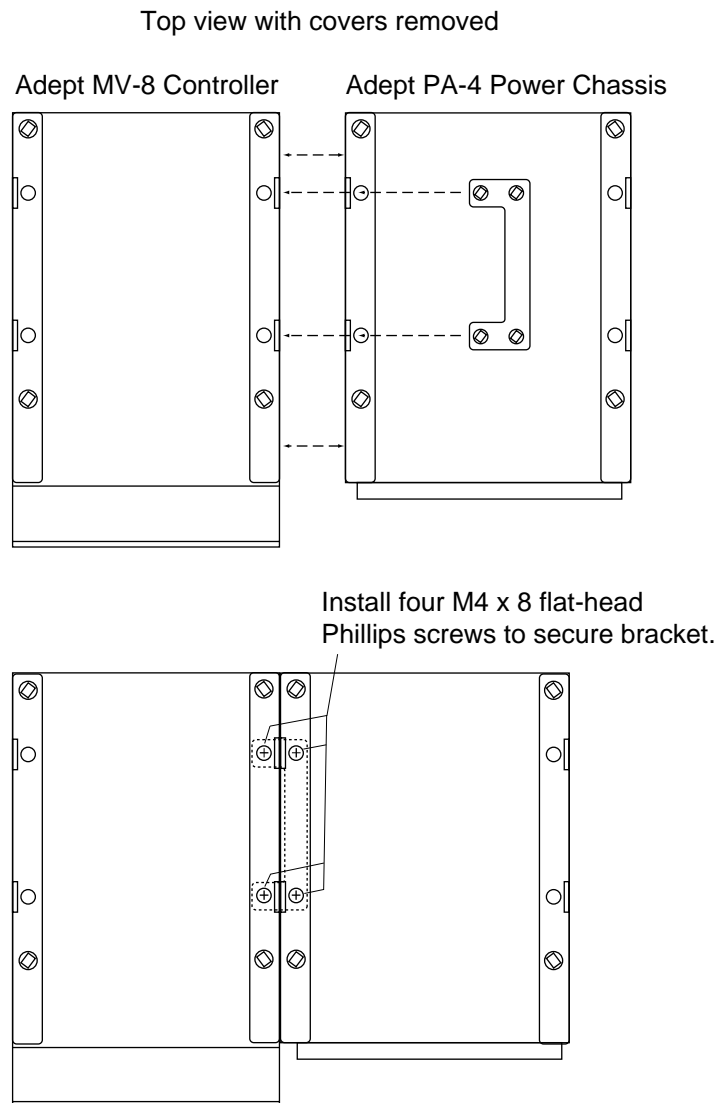

Figure 5-2. **Joining the Power Chassis and Controller at the Top**
1. Place the two units next to each other. Turn off power to each unit and disconnect the power. Remove the top cover from both. See Figure 5-2.